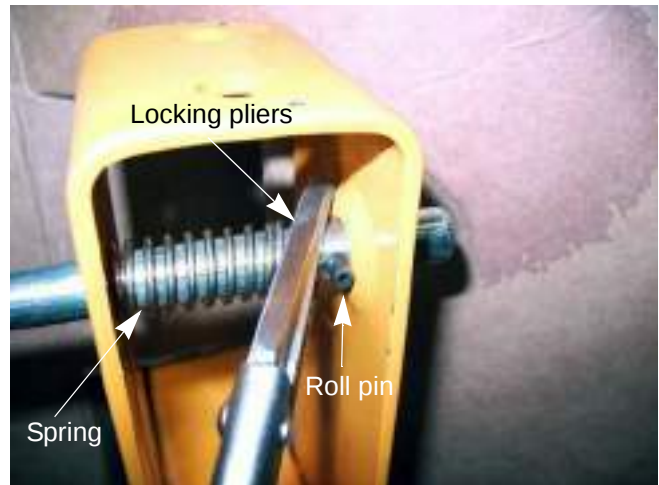

Figure 7.20
6. Grip the locking rod between the spring and the inside of the bracket on the side with the roll pin hole with a pair of locking pliers. See Figure 7.20.